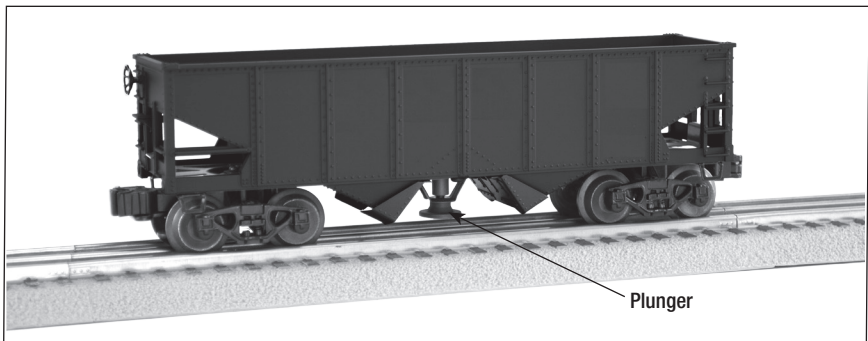

Figure 2. Operating Coal Car plunger location
2. Position the plunger over the “uncoupling” magnet on the 456R Operating Coal Ramp or similar accessory. The plunger is identified in Figure 2.